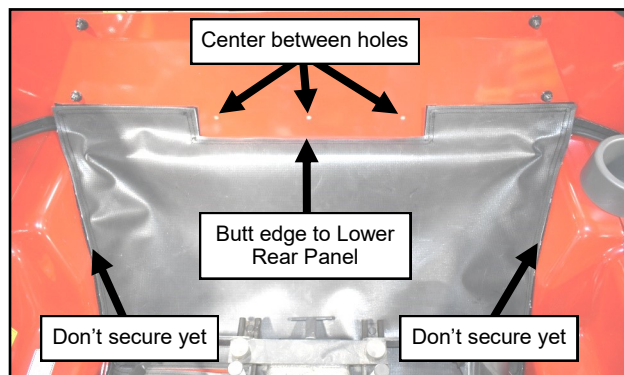

Fig. 21.3 (Secure Back Of Under Seat Filler)
- 21.3 Center the filler between the (3) storage pouch holes and stick the middle down to the top of the cross brace, butting the back edge up to the lower rear panel. See Figure 21.3. After the center is secured, work your way left and right to secure the rest of the rear edge of the filler to the Lower Rear Panel. Do not attach the sides of the filler at this time.